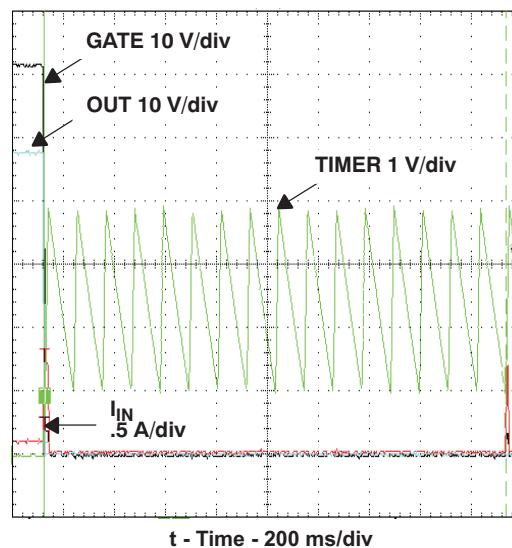

Figure 16. TPS2491 Restart Cycle Timing
The typical application circuit, and oscilloscope plots of Figure 12 through Figure 16 demonstrate many of the functions described Device Functional Modes.
7.4.5 Automatic Restart (Figure 16)